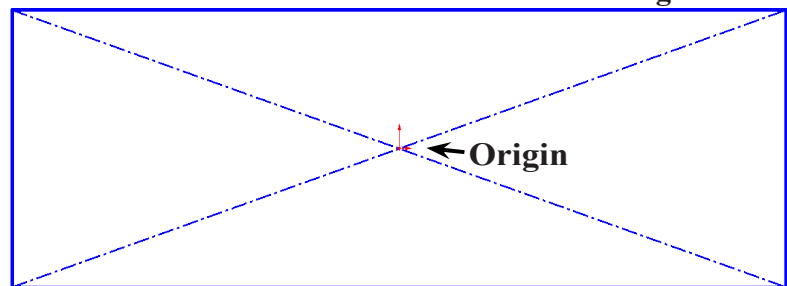

Fig. 2
Step 4. Sketch rectangle at Origin , **Fig. 2**.